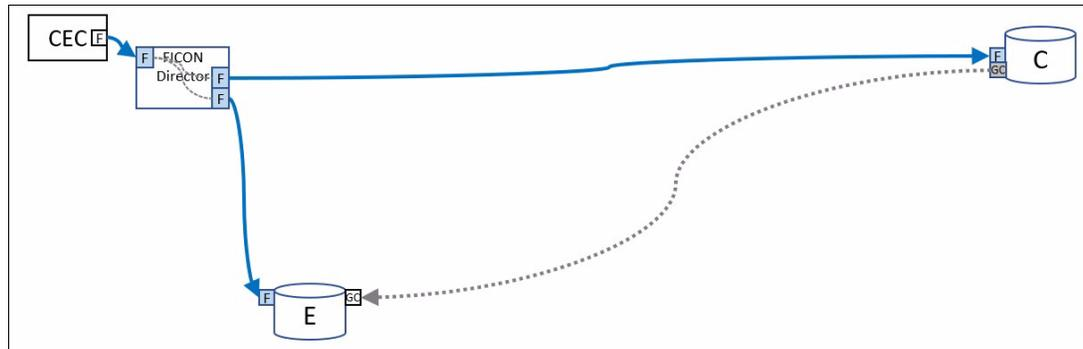

Figure 5-31 Storage replication: Global Copy
Global Copy (GC) sends fuzzy updates asynchronously to a remote device by using FCP without ensuring consistency. An application such as Logical Corruption Protection (LCP), with a FICON connection to the source and copy devices, as shown in Figure 5-31, can briefly switch the copy to use MM, which creates a consistent copy. Multiple copies can then be held and used as point-in-time checkpoints in case a fallback to a previous date and time is required.